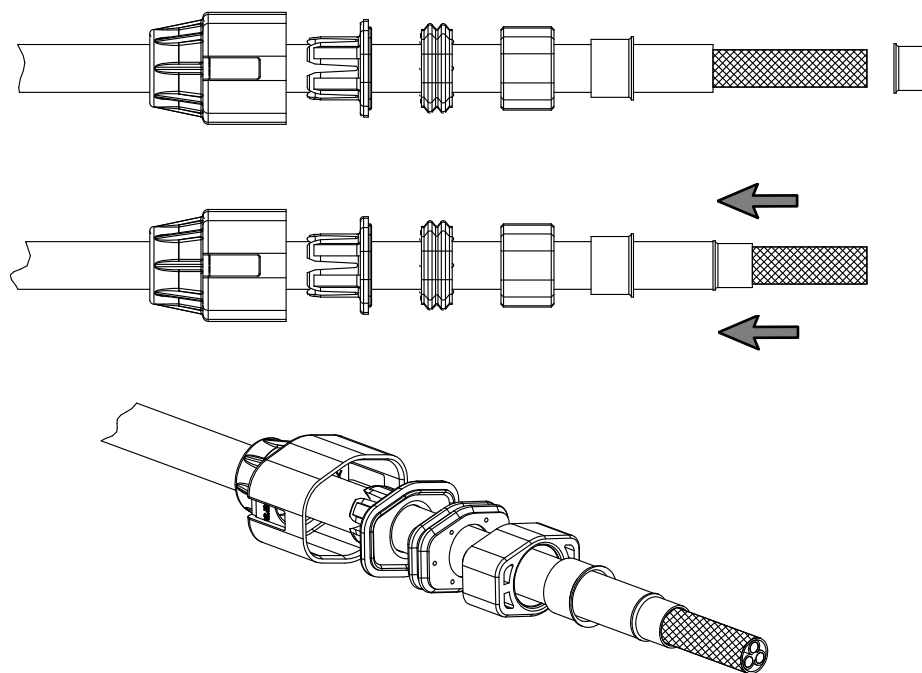

Figure 5
3. Insert the inner ferrule in the orientation shown over the cable shield until it stops against the outer jacket as shown in Figure 5.